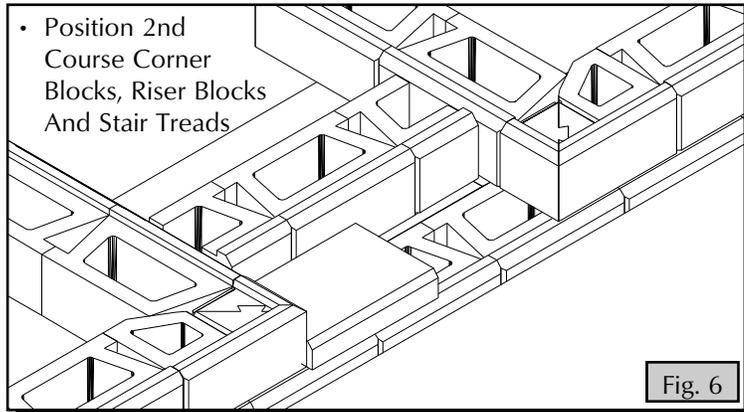

Fig. 6
- Using AB Corner Blocks or AB standard blocks miter cut to form 90° corners, create an opening in the wall for the first stair tread as shown (Fig. 6).
- Place the side wall blocks on both sides of the stairs, extending back into the hillside past the front face of the next course's riser blocks (Fig. 6).
- Place the 2nd course riser blocks on top of the compacted backfill material (Fig. 6). Check for level. To maintain a running bond pattern and offset the seams between the Capstone treads and the riser blocks, some cutting and fitting will be required.